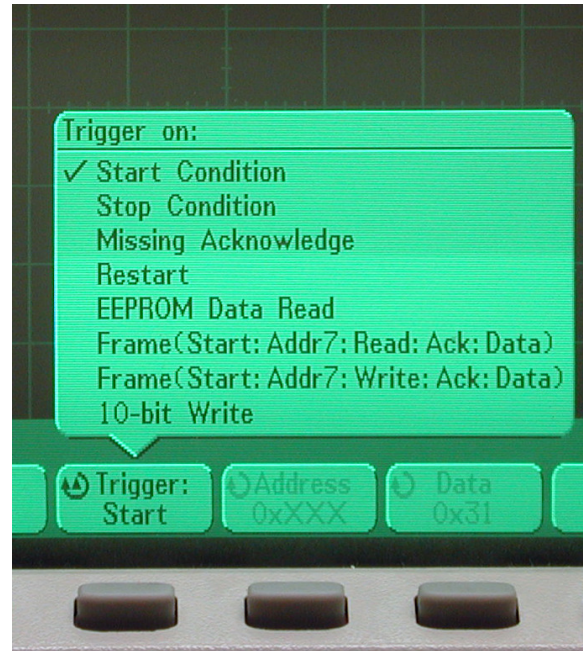

Figure 14: Agilent trigger conditions
14. Check the label on the third softkey to make sure it says "Trigger: Start". If it doesn't, press this key to bring up the "Trigger on:" menu (Fig. 14) and then press the button enough times to select "Start condition".